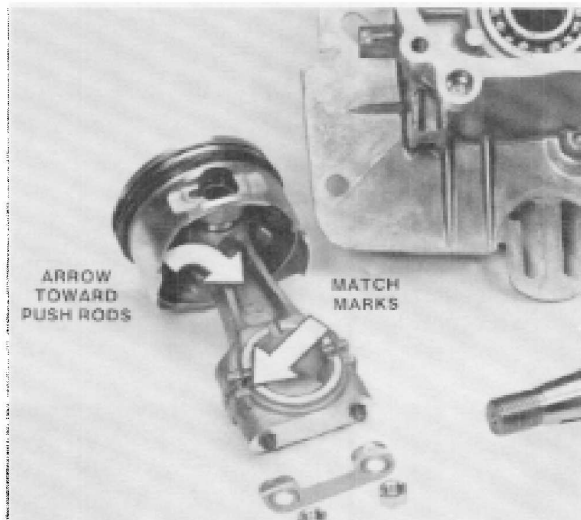

Figure 4-47
3. Before installing the piston, check the match marks on the rod cap and rod. This will ensure correct installation. Also note the arrow on the connecting rod, this should point to the push rod side of the engine on installation. See Fig. 4-47.